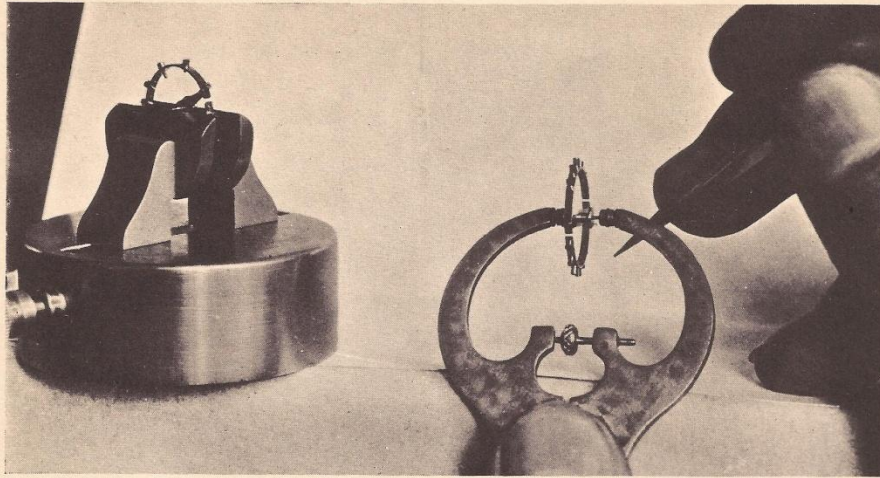

Fig. 1—Poising Block and Calipers
2. Poising block—Fig. 1.
Figure 1 shows the correct way to use a pair of poising calipers or a poising tool. The principle of the poising tool is based on the action of gravity, in which the heaviest part of the balance wheel will have a tendency to fall to the lowest possible position. Suppose the balance screw on the side of the jewel pin drops rapidly to the lowest point in the circumference of the balance. It is obvious that this screw is too heavy and must be undercut to reduce its weight. Reducing the weight of a balance when poising means that the watch will gain a certain amount for each particle of weight so removed. Therefore, it is important to use care and judgment in poising a balance, as it will be necessary during the timing operation to replace this weight with timing washers or by turning out the meantime screws.